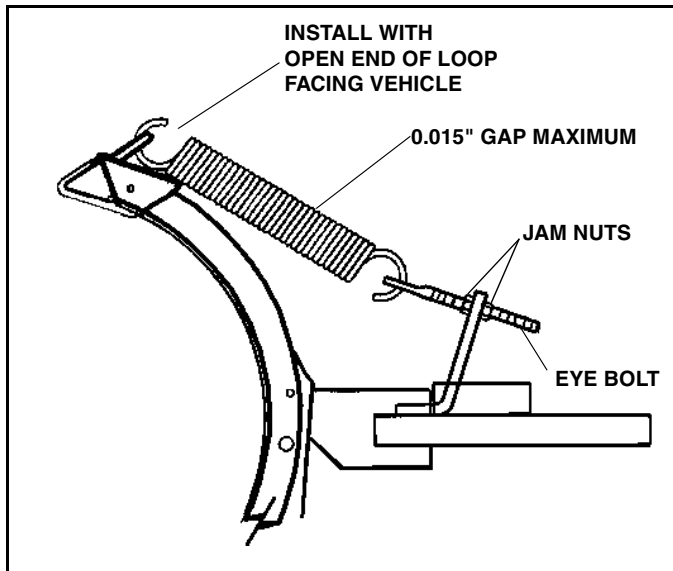

Figure 4-5
2. Insure that blade spring is installed as illustrated with open end of top loop facing vehicle. (See Figure 4-5)
3. Adjust springs by loosening jam nuts on end of the eye bolts and turning opposing nut in proper direction. (See Figure 4-5)